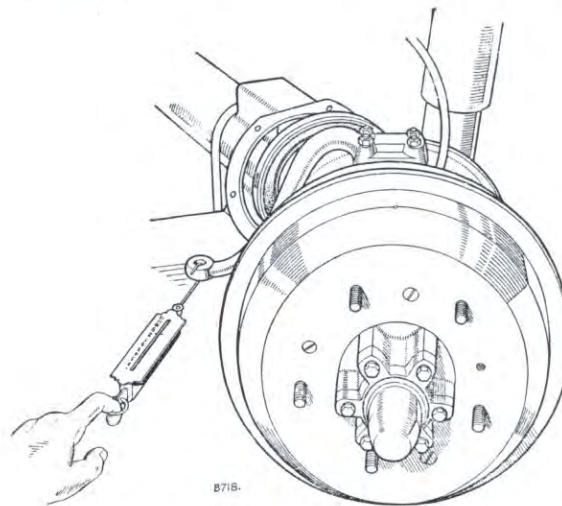

Fig. 3. Checking resistance figure.
14. Pull down the top swivel pin securing nuts evenly in rotation until tight, then check the resistance to rotation of the steering lever. Using a suitable spring balance as shown in Fig. 3, add or subtract shims at the top until a figure of 14-16 lb. (6,25-7,25 kg) is obtained.